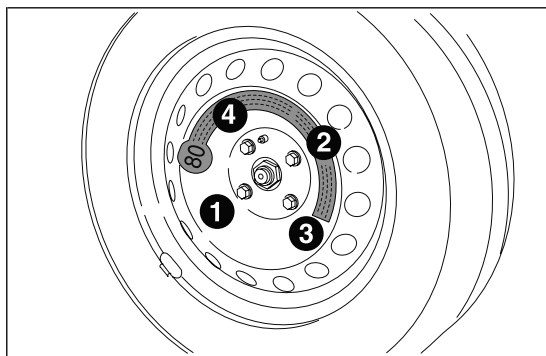

fig. 113
- ☐ use the wrench A provided to fully tighten the bolts in a criss-cross fashion as per the numerical sequence illustrated in fig. 113;